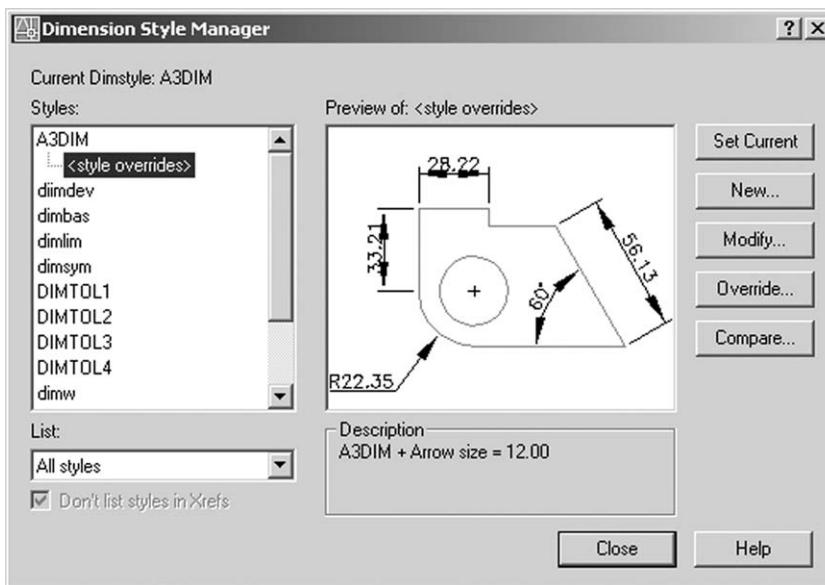

Figure 25.3 The Dimension Style Manager dialogue box for style A3DIM with DIMASZ set to 12.
- c) Description: A3DIM+Arrow size = 12.00 – Figure 25.3